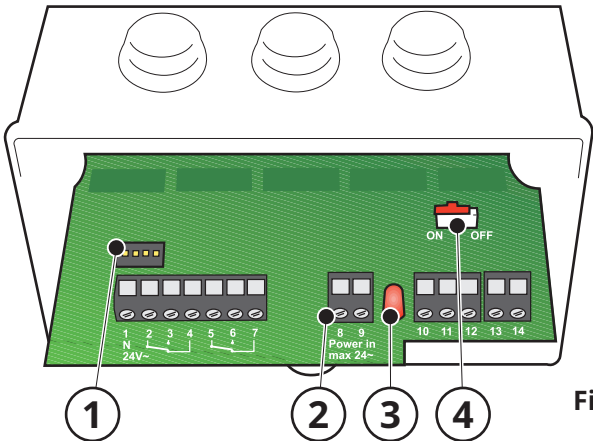

Fig. 1
Controlling time delay to evacuate remaining gases is built into the control unit (1, Fig 1). Time is adjustable from between 0-15 minutes.
To activate / deactivate timer adjust the switch (4, Fig 1). If timer is placed in ON mode this will enable adjustments of time delay on the switch panel (1) as illustrated below.